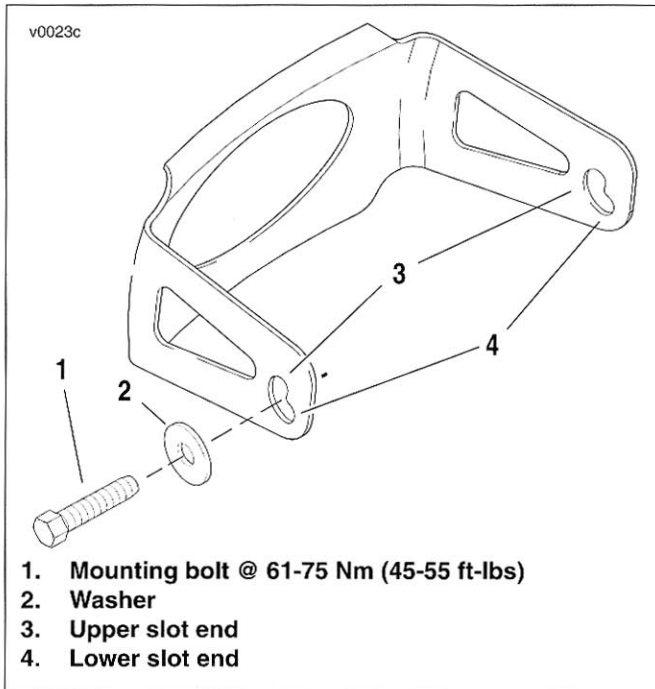

Figure 4-7. Fuel Tank Mounting Bracket
2. See Figure 4-7. Loosely thread in the two mounting bolts (1) and washers (2) through the forward lower slot ends (4) of the bracket into the threaded boss on the frame.
3. Evenly press forward and downward on the bracket against the fuel tank until the mounting bolts slide back and up into the upper slot ends (3).